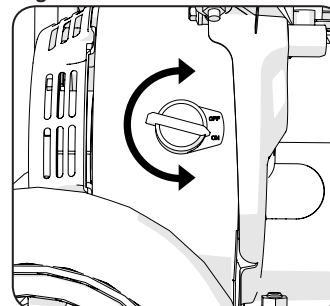

Fig 13
- Turn the engine ignition switch to the 'ON' position. (Fig. 13)